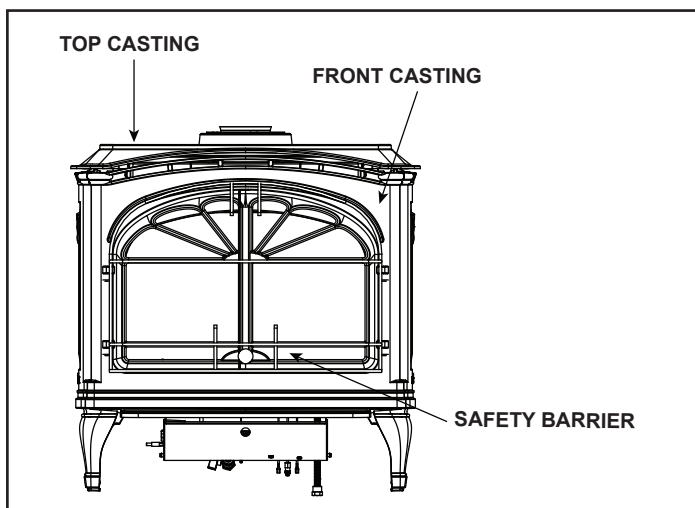

Figure 10.1 - Remove Casting
2. Remove front casting by grasping it at the top and lifting up. If the stove is already installed in a top vent configuration, the top casting will need to be lifted slightly to accommodate removal of the front casting. See figure 10.1. Set front casting aside on prepared work surface.
Reinstall the glass by reinstalling the three fasteners into the top of the glass frame assembly using a #2 Phillips bit. Tighten until snug. Do not overtighten. See Figure 10.1 and 10.2 for reference. Reinstall front casting by setting in place and tightening the thumb screw.